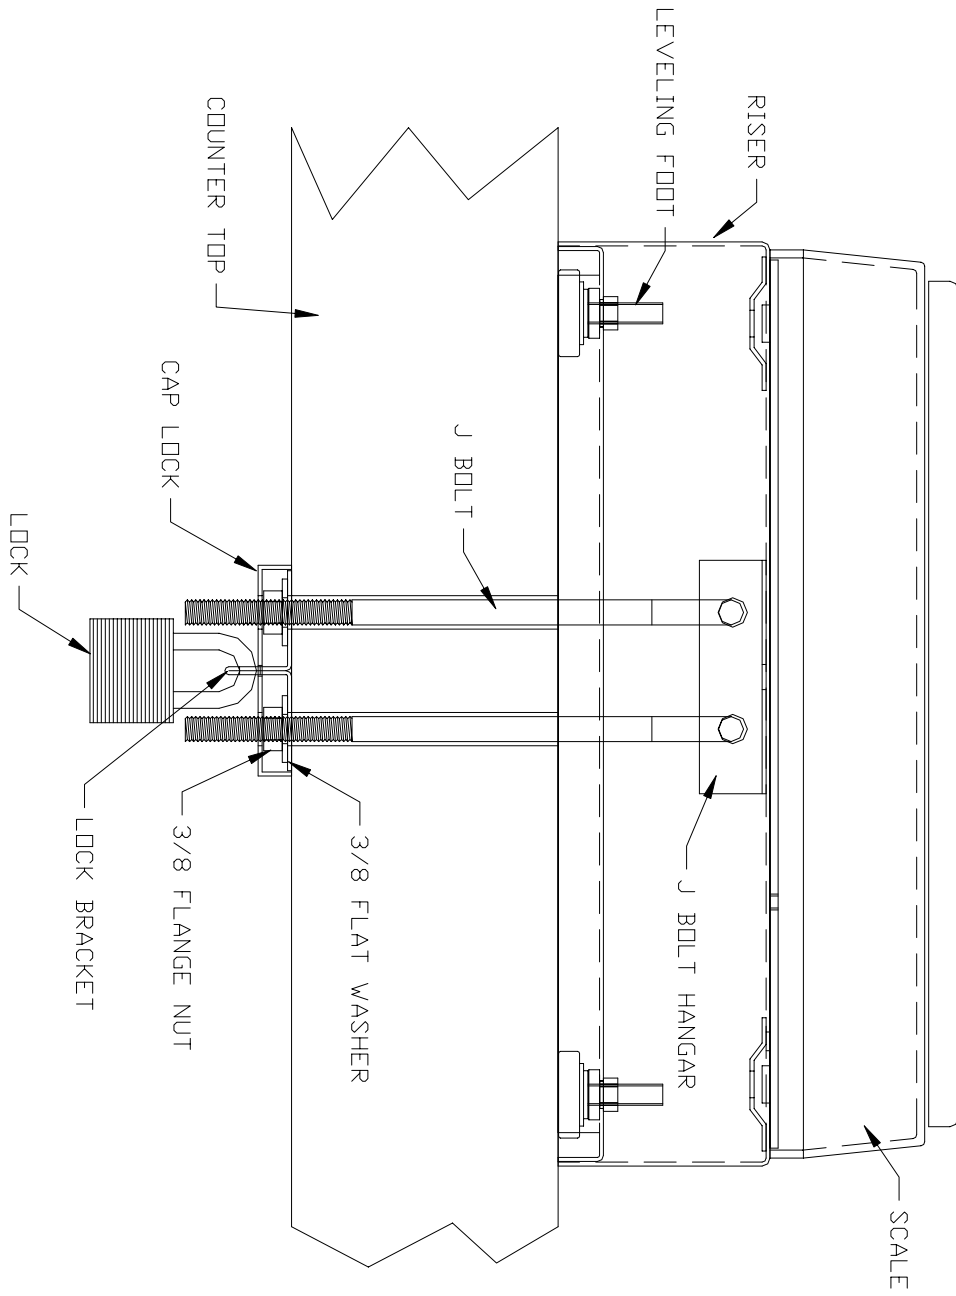

FIGURE 1 LOCK DOWN ARRANGEMENT MODEL TS-70PX
- E. Take the two J-Bolts (1043-X1A) and hang them on the J-Bolt Hangar as shown in **fig. 1**. With the J-Bolts hanging down from under the scale, set the scale assembly in place on the counter making sure the J-Bolts go through the holes that were drilled in the counter.
- F. Adjust the leveling feet to level the scale. Use the level bubble on top of the scale unit as a level indicator. Leveling feet are shown in **fig. 1**.
- G. Slide the Lock Bracket (1039-X1A) onto the J-Bolts as shown in **fig. 1**. Use hex flange nuts (1050-X1A) and flat washer (1052-X1A) to secure tight against the counter **fig. 1**.
- H. Slide the cap lock (1040-X1A) up onto the j bolts and fasten with pad lock (1055-X1A) as shown in **fig. 1**.